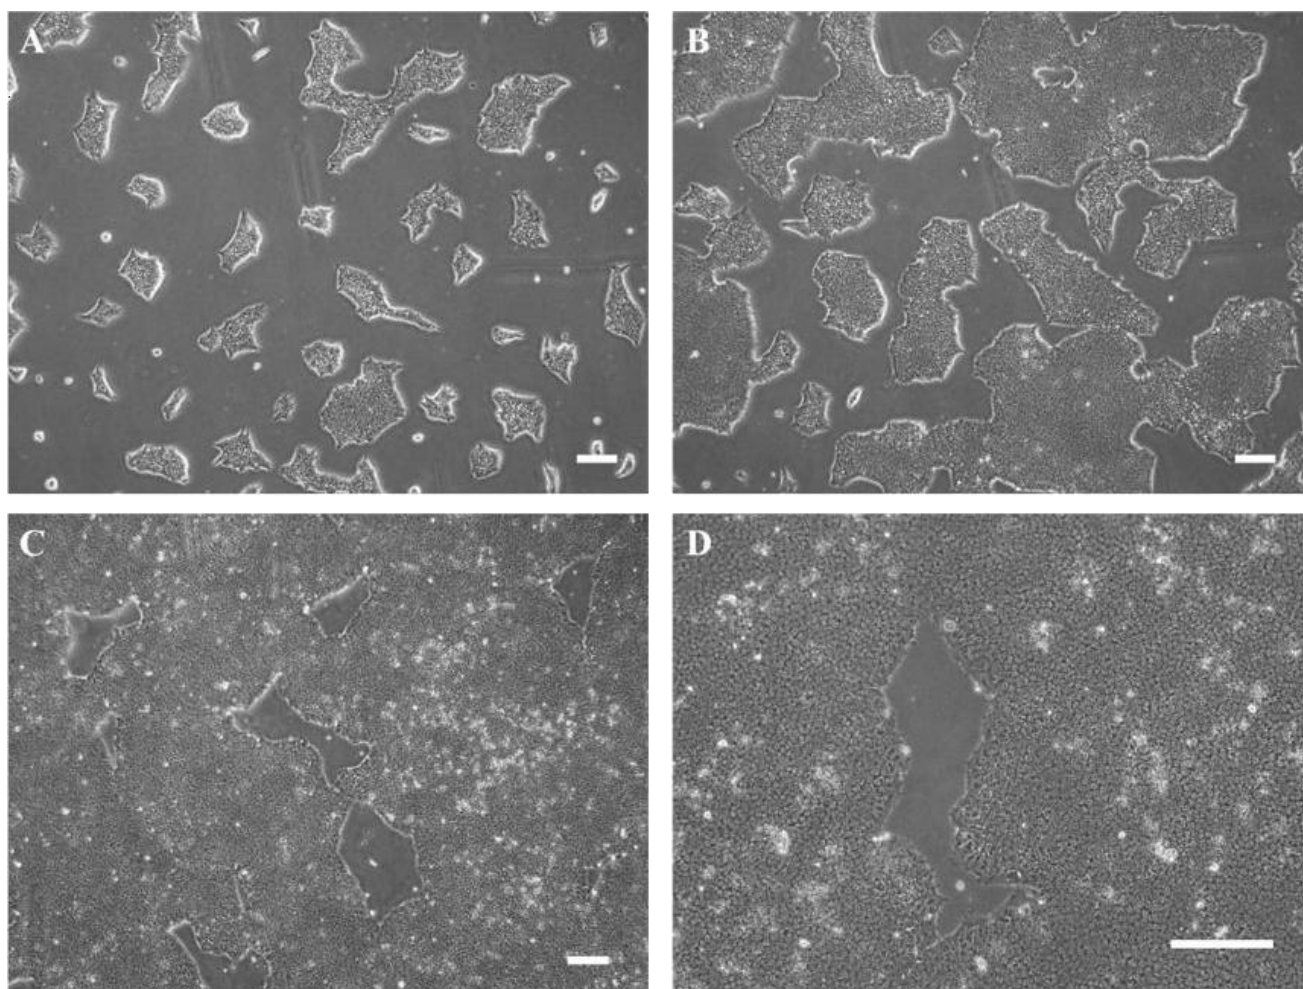

Figure 1: Morphology of hiPSCs under NcTarget™ hPSC medium use conditions on a Matrigel® Plate.
- 1.1 When cell confluence reaches approximately 85% (Figure 1-C, D), normally 4 days after seeding. Even if the clones are small and confluence is insufficient, continuous culture should not exceed 5 days.
The passaging ratio can range from 1:5 to 1:20 depending on cell growth status and experimental requirements. If cells are healthy, with 85% confluence and uniform clone size (Figure 1-C, D), a 1:10 ratio is recommended. Reduce the ratio if cell density is low; increase the ratio if density is high.
12. After 18–24 hours, replace with fresh **NcTarget™ Complete Medium**. Change the medium daily thereafter, followed with passaging or cryopreservation 4–5 days later (Figure 1).
1. When the cell confluence reaches about 85% (Figures 1), cells can be harvest for cryopreservation. Typically, 2×10^6 – 4×10^6 viable cells per well of a 6-well plate can be collected and frozen in one cryovial.